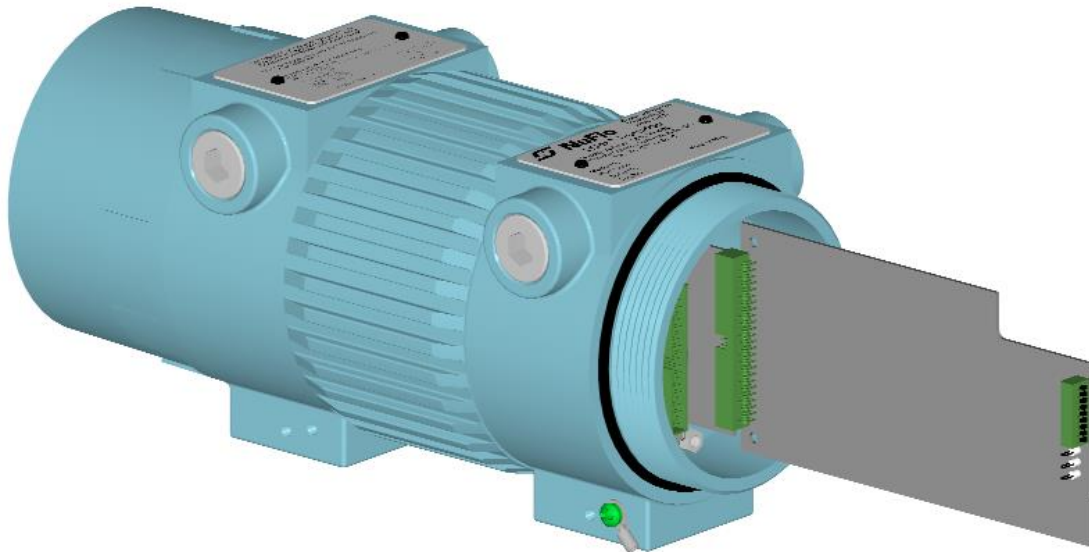

Figure 8.11: IOB, CTC, MXR Board Removal
5. Identify the board requiring replacement. The end of the board farthest from the operator is attached to a connector deep inside the transmitter body. To remove a board, simply grasp the board and gently pull in a back-and-forth motion until it releases from the connector (Figure 8.11).